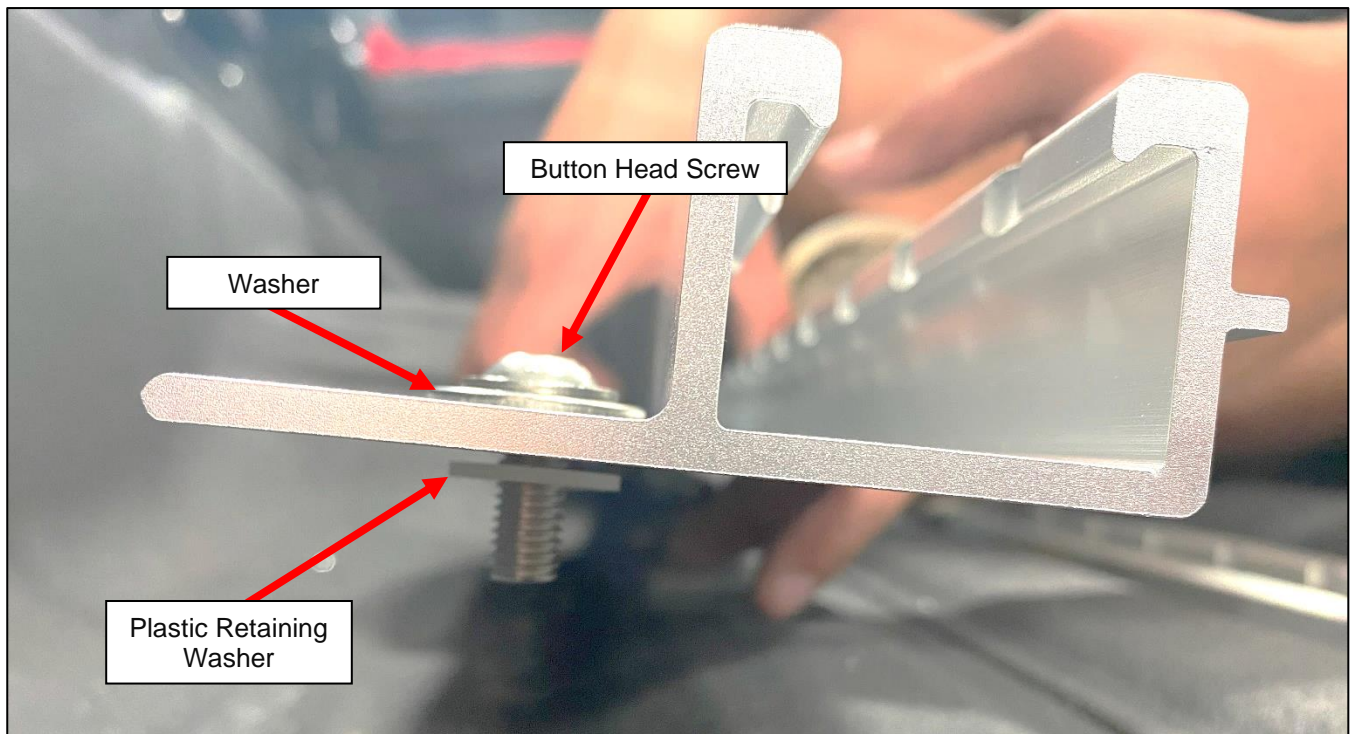

Figure 16
18. Locate (10) ten Button Head Screws, (10) ten Washers, and (10) ten Plastic Retaining Washers. Install a Button Head Screw with Washer into the Mounting Holes of the Utility Track, and secure with a Plastic Retaining Washer on the back. *Figure 16.*